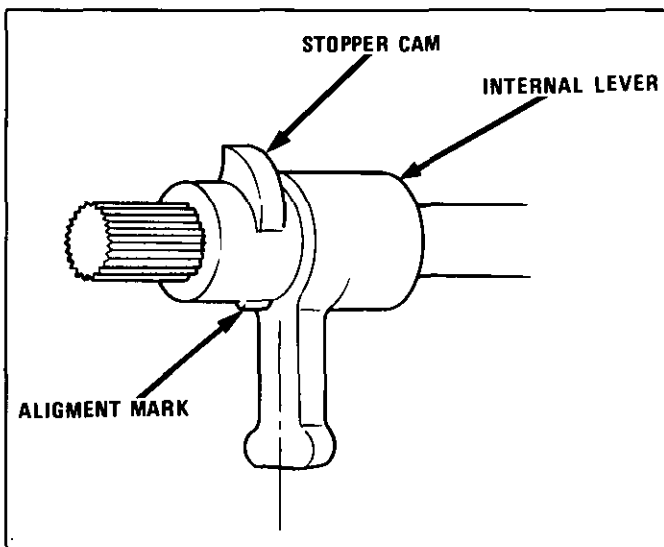

Figure 51 Stopper Cam Alignment Mark
- Align the stopper cam alignment mark with the center on the internal lever (Figure 51).